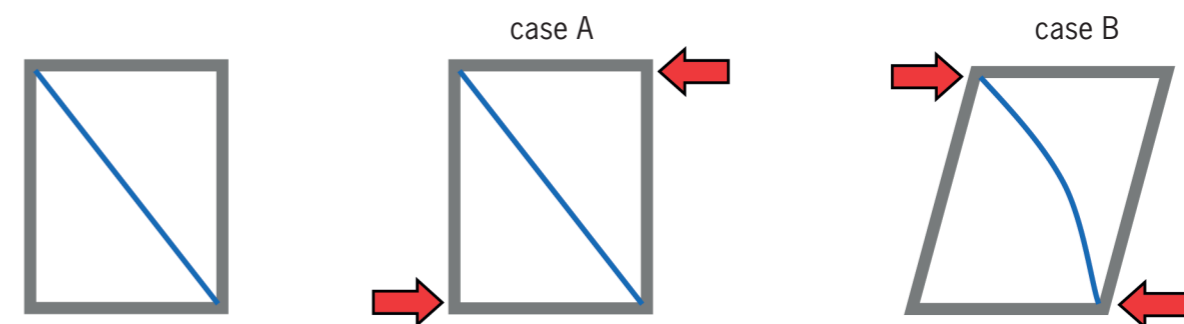
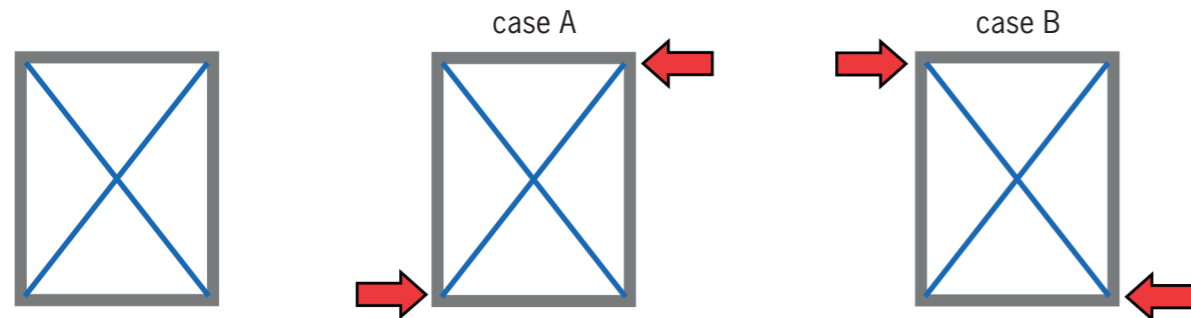

Figure 31: Simple triangulation of a frame
Figure 32: Cross-bracing a frame
3. Compare the frame design in Figure 31 with the one in Figure 32.
For the frame in Figure 31 you would have to use thicker steel than the frame in Figure 32, because it is not cross-braced.